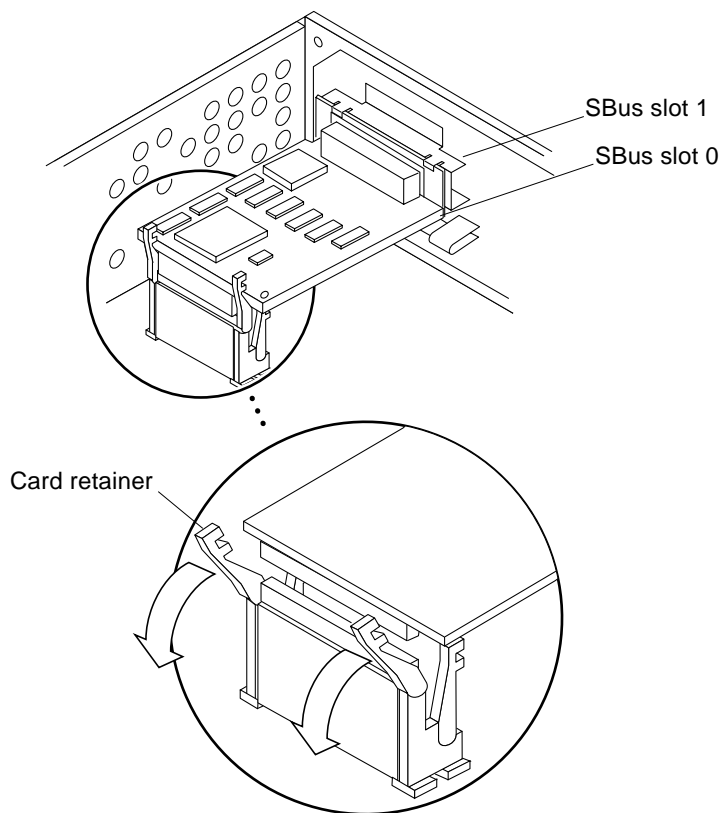

Figure 2-8 Removing an SBus Card from Slot 0
1. Push the card retainers back from the edge of the SBus card (Figure 2-8).